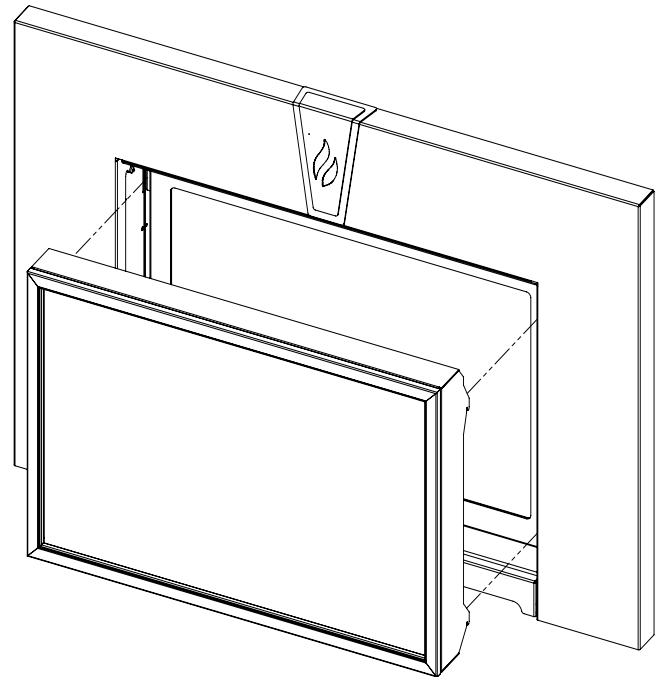

**Figure 51: Installing Safety Screen Mounts.**
1. Attach the left, right, top/bottom brackets onto the safety screen using a T20 screwdriver and the supplied sixteen (16) #8 T20 screws (see Figure 51). Do not over-tighten the screws, doing so could cause them to strip out of the screen frame.